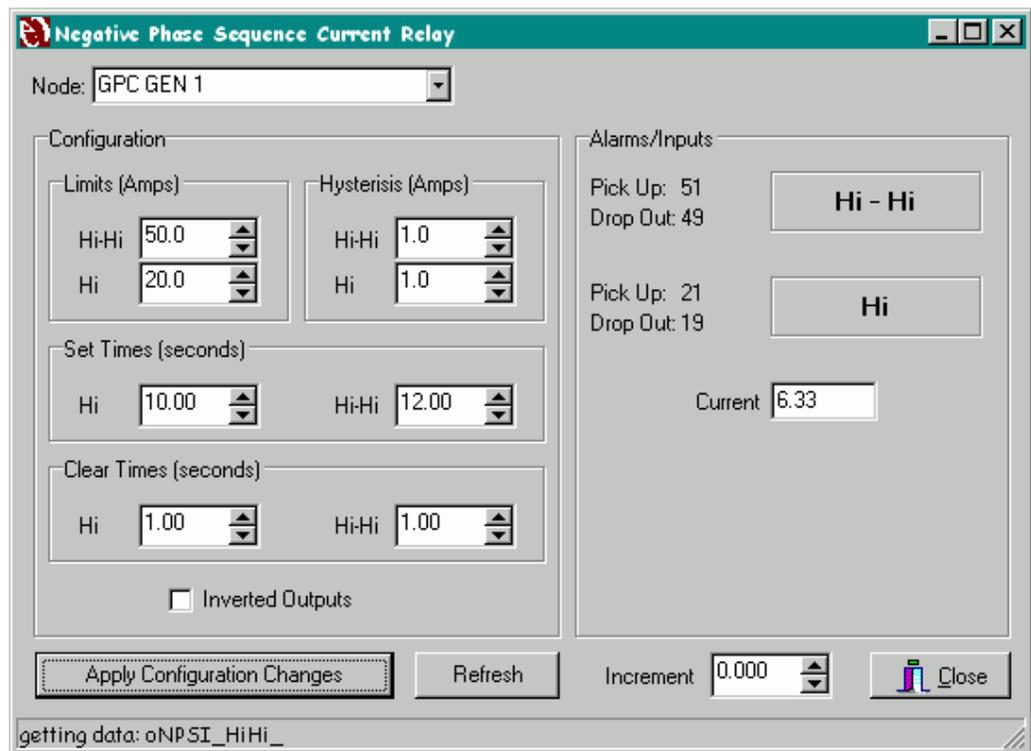

Figure 2-7 Negative Phase Sequence Current Relay
The NPS Current Relay shown in Figure 2-7 is used for the initial setup of enpower controls. This screen is used to setup the Negative Phase Sequence Current Relay. This protective relay is used to trip the breaker on high unbalanced currents. Using this screen, the user can setup the high setpoints, hysteresis, and the set and clear times for the relay. This screen is associated with the enpower LonMark Object called Negative Sequence Current (46) (NPSI).